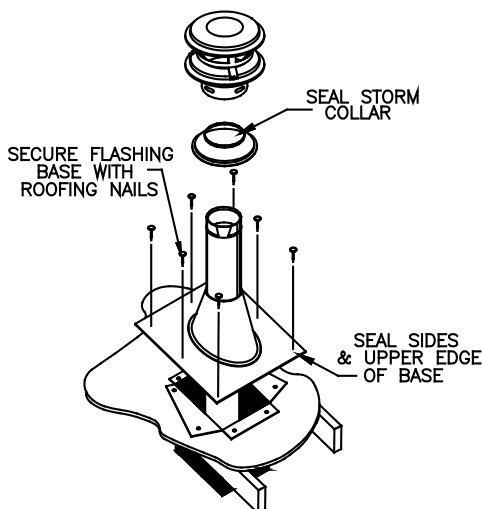

Figure 34
11. Slip Roof Flashing over the supported Pipe Section(s) protruding through the roof. Apply sealant to underside of Roof Flashing along upper edge and sides. Secure the base of Roof Flashing to the roof with roofing nails **(Figure 34)**. Ensure that the roofing material overlaps the top edge of the Roof Flashing.